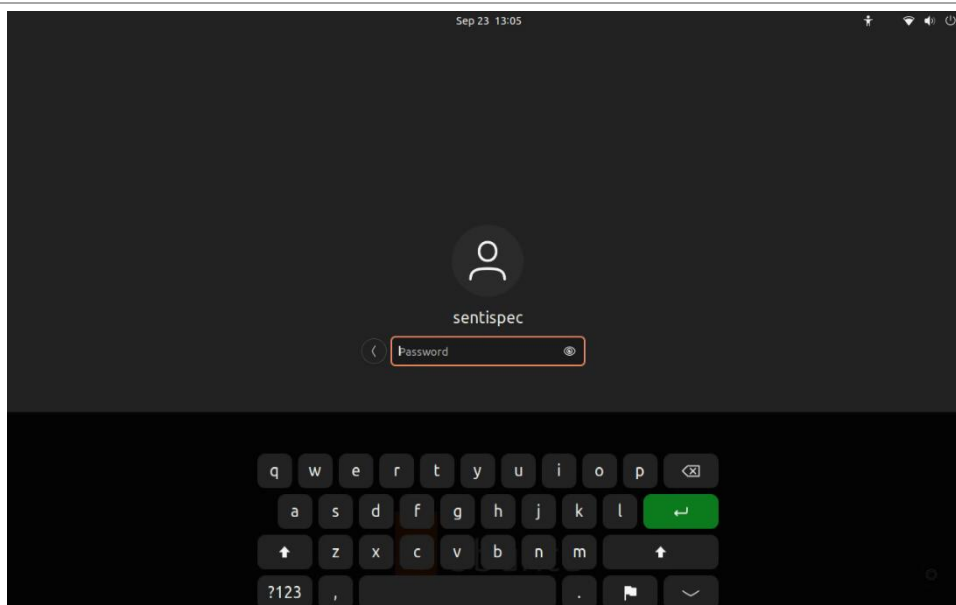

FIGURE 2-10 - INSERT PASSWORD
4. Press the "sentispec" user to log in and enter the password. The default password is 123456, see Figure 2-10 - Insert password